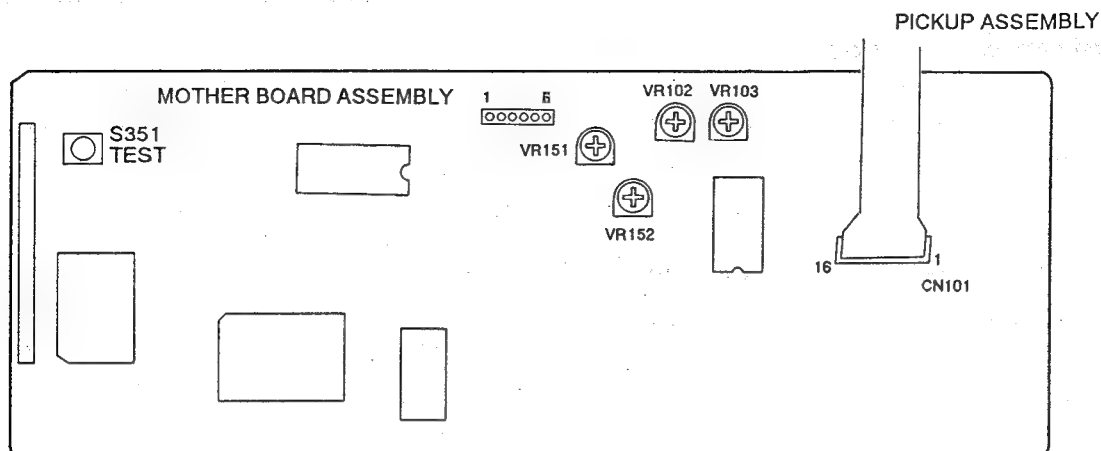

Figure 1 Adjustment Locations
2. Press the TEST mode switch (S351). (See Figure 1.)